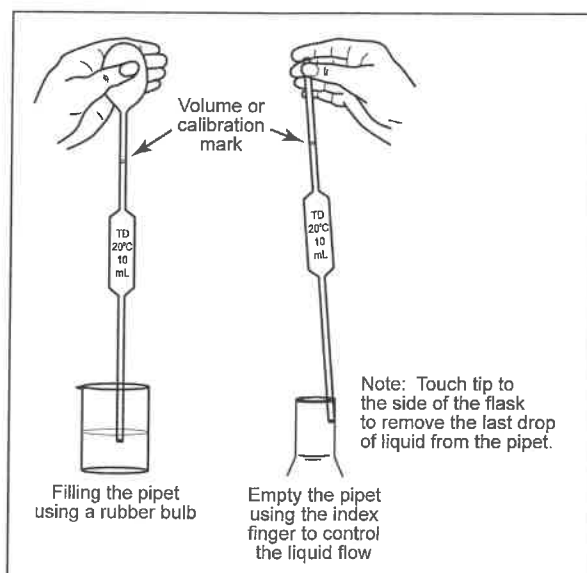

Figure 2: Using a Pipet
3. Pipet (See Figure 2) 10.00 mL of the liquid into the beaker and measure its mass. Record your results under Trial 1 on the data sheet.